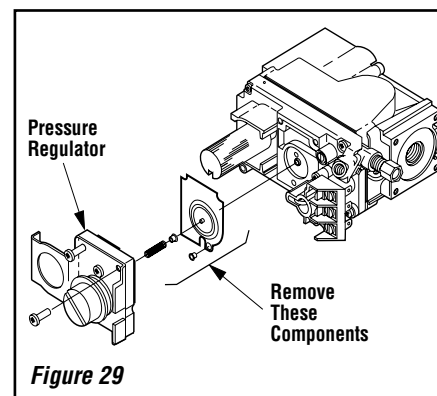

Figure 29
Step 4. SIT Systems - Refer to **Figure 29** and the instructions provided with the kit. Using a Torx T20, remove and discard the three pressure regulator mounting screws. Remove the pressure regulator, spring, poppet, diaphragm and bushing. **Discard all removed components.**